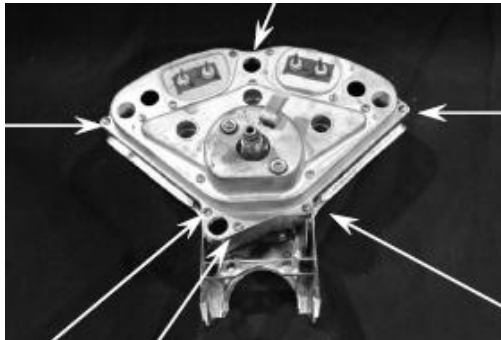

Figure 3
Step 3: Remove the six (6) screws that hold the gauge cluster in the bezel. The screws are located around the perimeter of the bezel. (Figure 3)